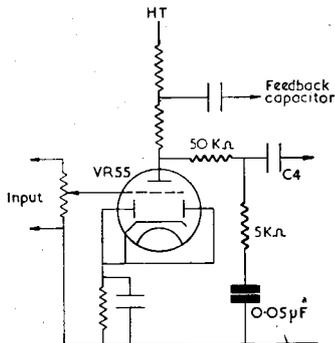

Fig. 1: Components needed—Resistors, (1) 50 K ohms  $\frac{1}{2}$  watt; (1) 5 K ohms  $\frac{1}{2}$  watt. Capacitor, 0.05  $\mu\text{F}$ .
**S**INCE building the amplifier described in the October issue, various experiments have been made with boost circuits. Bearing in mind the fact that simplicity is the order of the day and that expense is to be cut to the minimum, the circuit of Fig. 1 was selected.
Referring to Fig. 1, it will be seen that the bass boost network has been placed after the input valve (VR55). The network in the original amplifier, consisting of R1, R2 and C1, provided a small degree of bass boost—sufficient to compensate for any speaker losses. This network can now be deleted and the input connected direct to the volume control potentiometer. The new circuit gives a boost of about 15 dB (about 10:1) which is slightly more than is required to compensate for the losses in re-